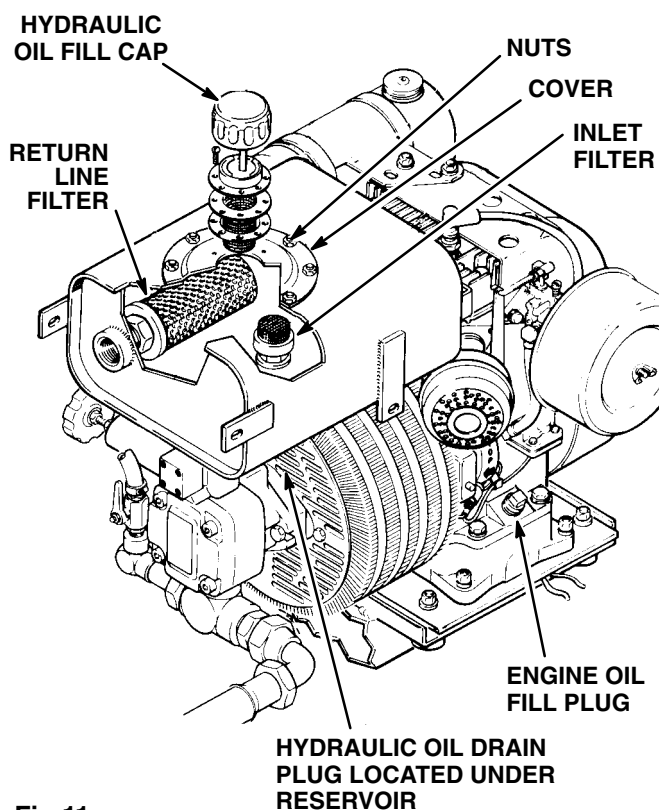

Fig 11
- b. Place a waste container under the drain plug of the hydraulic reservoir. See Fig 11. Unscrew the plug and drain the reservoir . Reinstall the plug before proceeding.
- f. Install the reservoir cover and nuts. Then pour in five gallons (19 liters) of Graco Hydraulic Oil through the intake filter. See Fig 11. Install the fill cap.